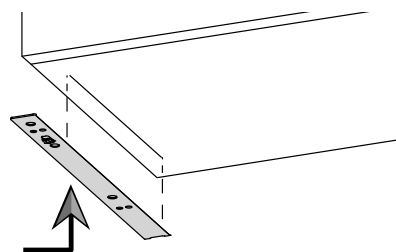

Fig. 16-2
- Slide the bracket inwards and align it against the marked line. Ensure the rear edge is tight against wall as shown in fig. 16-2.